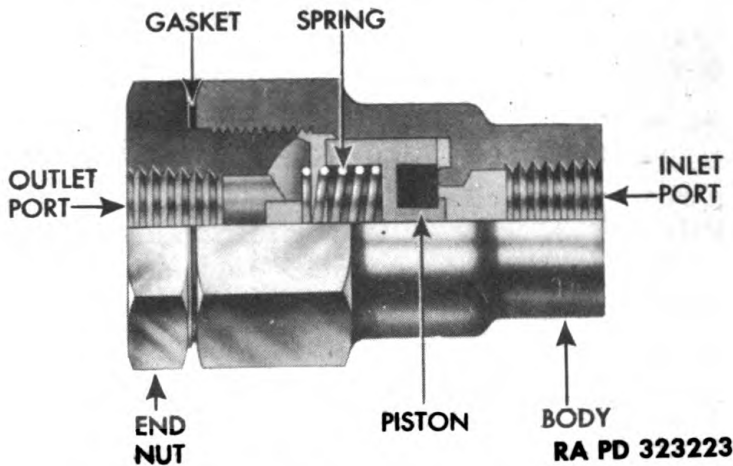

Figure 229 — Cross-section of One-way Valve
a. Description (fig. 229). The one-way valve is incorporated in the air line between the air manifold and the emergency coupler at the front end of the vehicle. This valve permits compressed air to
b. Operation (fig. 229). Compressed air enters valve through inlet port at small end. It forces the piston off its seat, compressing the spring, and then passes on through the valve and out the outlet port. When air pressure in the outlet port becomes greater than air pressure in the inlet port the piston will seat, closing off air flow.